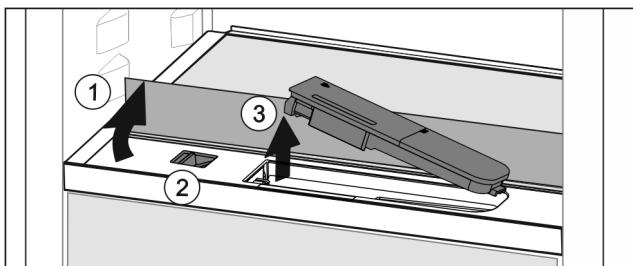

Fig. 114
- ▶ Lift the glass panel and fold towards the rear until it clicks into place Fig. 114 (1).
- ▶ Slide the slider Fig. 114 (2) to the left.
- ▶ Remove the water tank Fig. 114 (3).